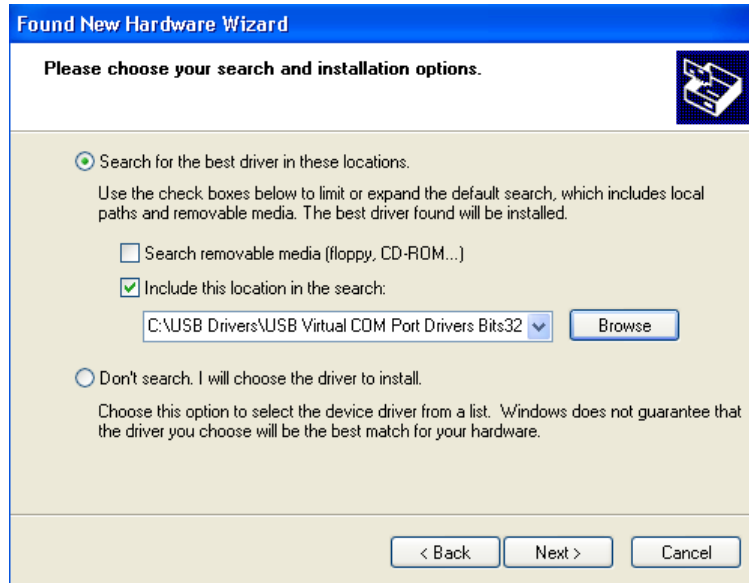

Fig. 2-15
- ◆ Select "Search for the best driver in these locations" and enter the file path in the combo-box ("C:\USB Drivers\USB Virtual COM Port Drivers Bits32" in Fig.2-15 below) or browse to it by clicking the browse button. Once the file path has been entered in the box, click next to proceed.